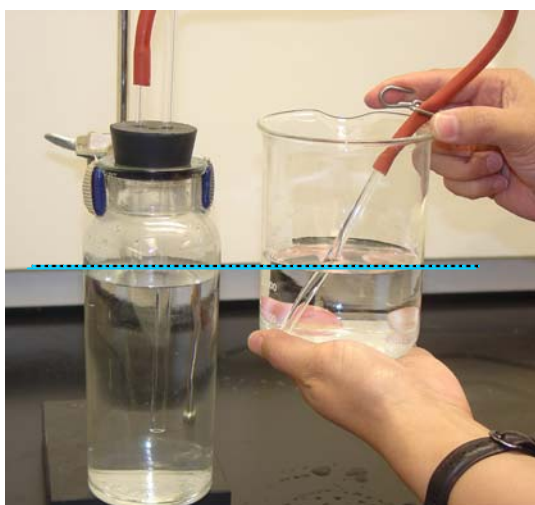

Figure 4. Equalizing pressure.
- With the pinch clamp off and the exit tube under the beaker water level, equalize the pressure inside the bottle to atmospheric pressure by raising or lowering the beaker until the water levels in the beaker and bottle are the same. Once level, attach the pinch clamp to the tubing closest to the beaker. See Figure 4. Why is this equalizing step necessary? Relate this to an open-end manometer.